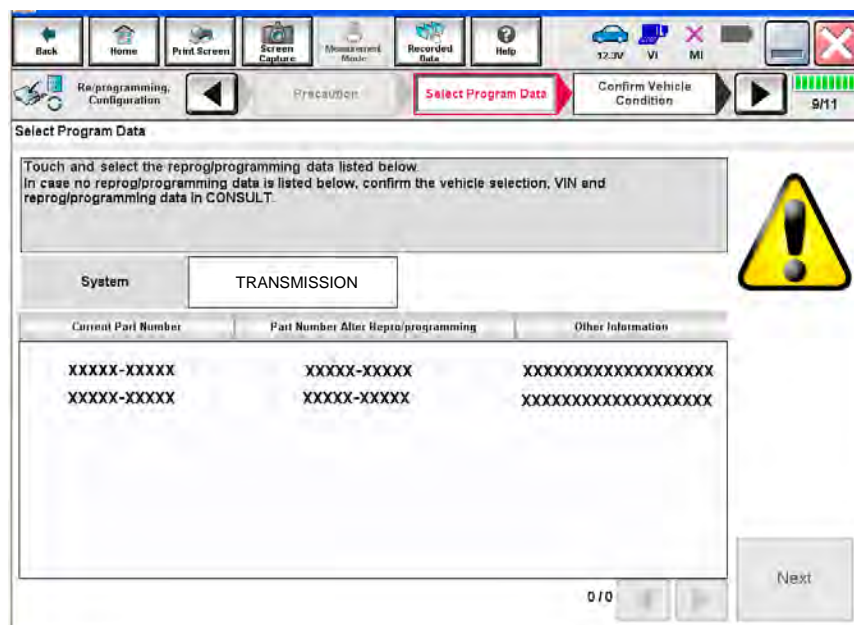

Figure 17
- If more than one new P/N is available, the screen in Figure 17 displays.